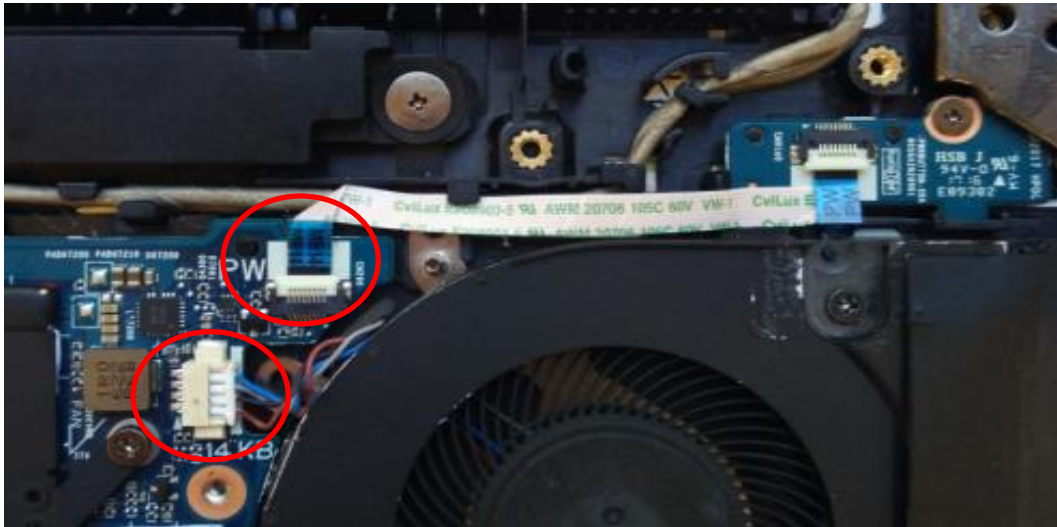
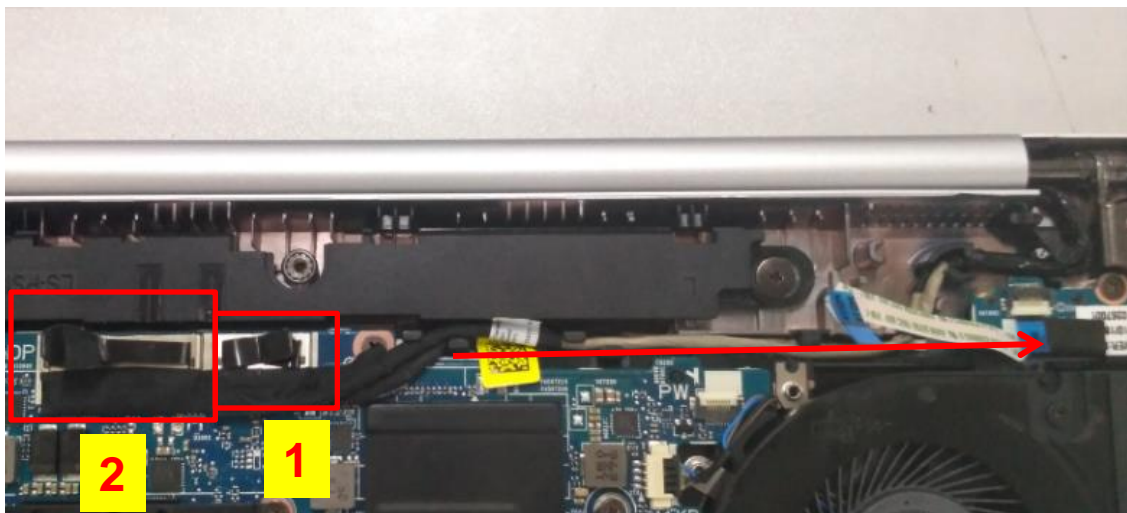

Fig.1
Fig.2
1.Disassemble Power FFC, FAN cable, LVDS cable, CCD cable(Fig.1/Fig.2).